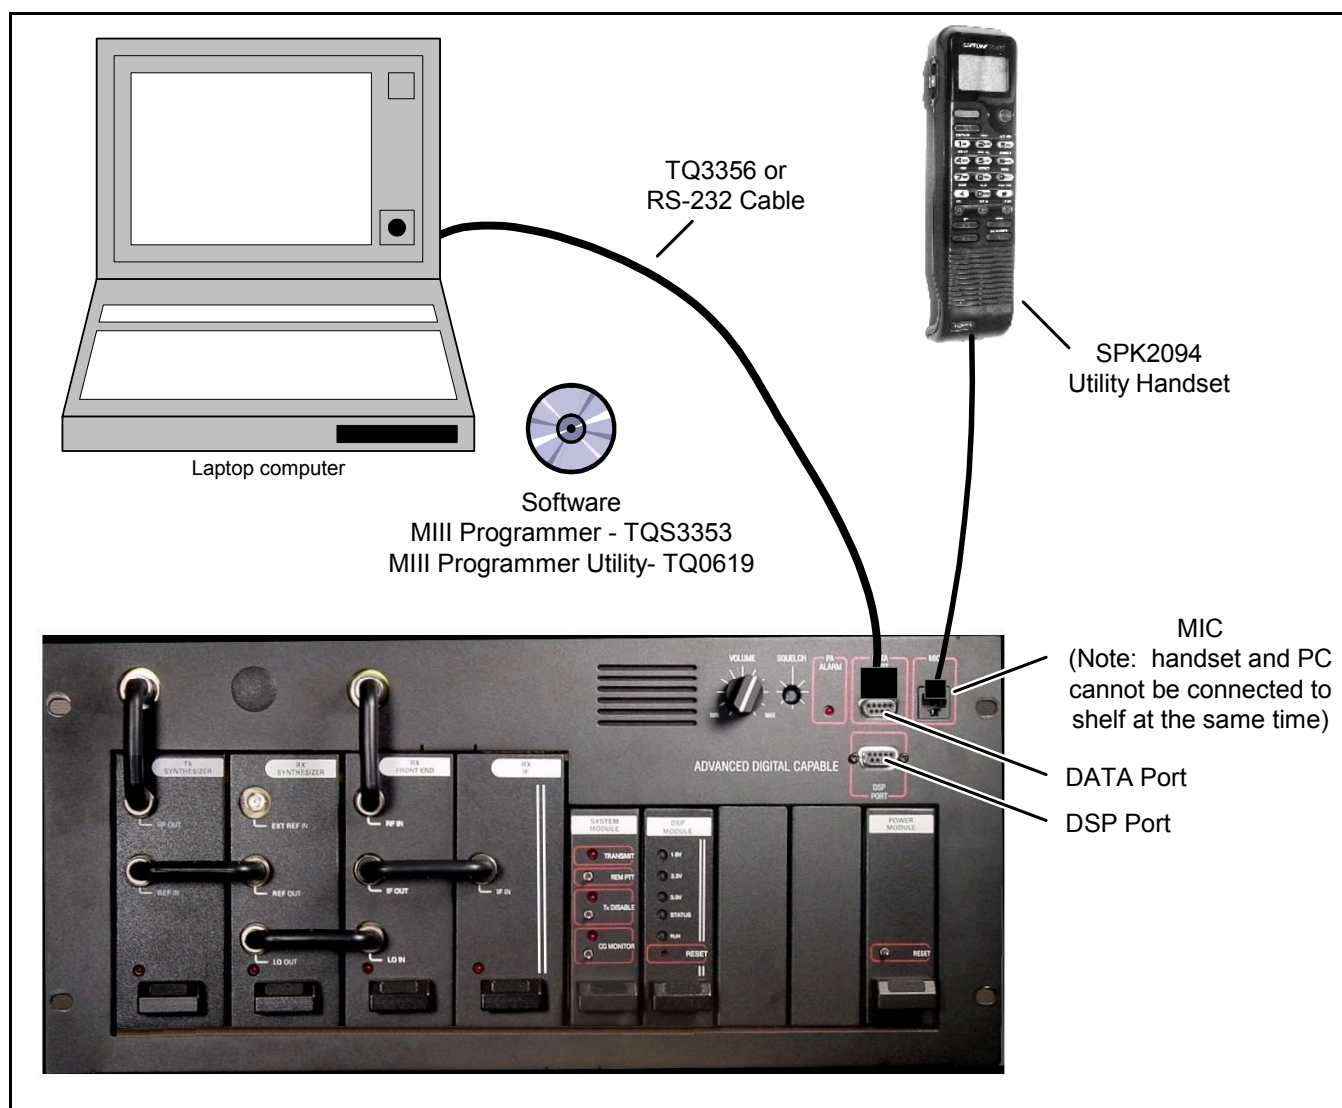

Figure 8-1: MASTR III Programmer Connections
3. Connect the PC computer's serial COM port to the T/R Shelf DATA PORT using the TQ3356 Interconnect cable (19B801348P2) or equivalent. Refer to Figure 8-1.
7. Plug the Utility PC Programmer cable into the DATA connector, or Utility Handset cable into the MIC jack, both located on the front of the T/R Shelf. (Refer to Figure 8-1.)